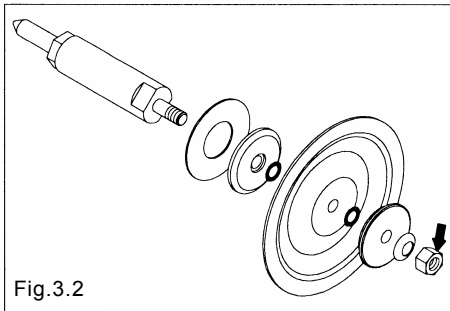

Fig.3.2
- Pull out the diaphragm, center disk and center rod from the main body. [Fig.3.2]
- Remove the nut, and remove the center disk, diaphragm and O ring (□T, 10□C, 10□N) from the center rod. [Fig.3.2]